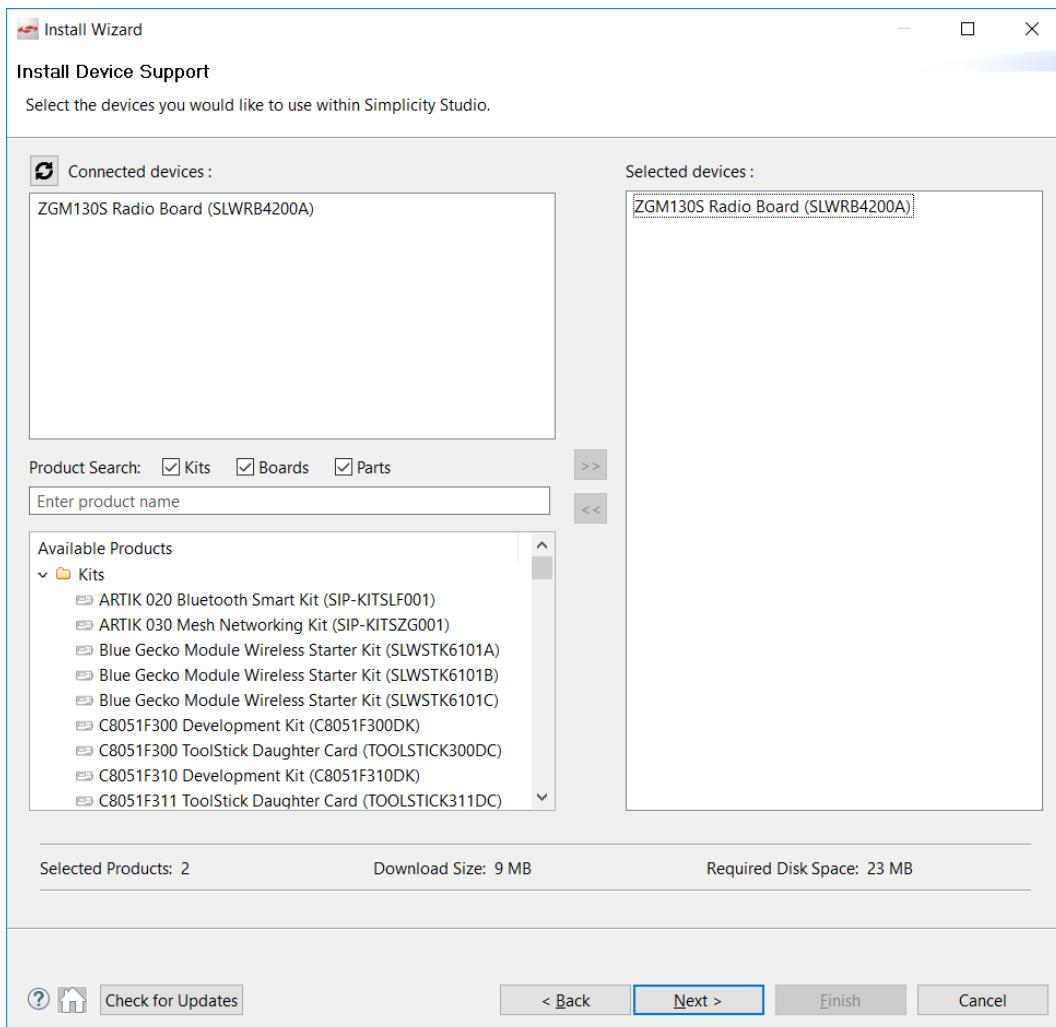

Figure 3: Select a Device to Install the Needed Software Packages
- 6) After some additional items are installed, you are offered the option of installing by device or installing by product group. In this guide we will be using the '*Install by Device*' option, which will install the relevant software based on the connected hardware (if you do not have any hardware connected, you can browse for possible hardware kits, and still get the same easy install experience). See Figure 3.